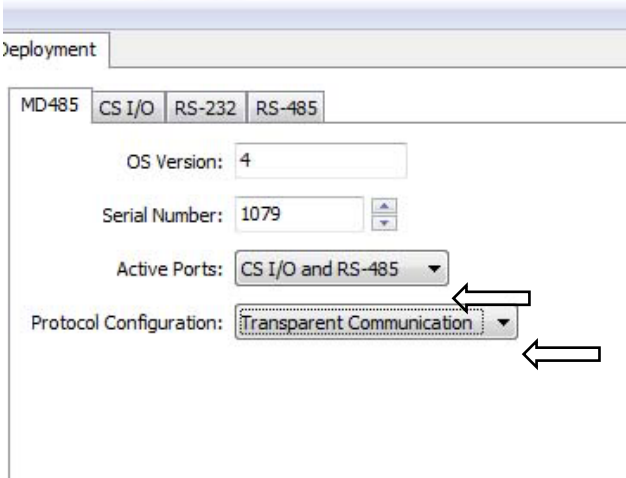

FIGURE 8-8. MD485 Deployment tab
- 4. Click the **MD485** tab. Select *CS I/O* and *RS-485* in the **Active Ports** box. Select *Transparent Communication* in the **Protocol** box (FIGURE 8-8).